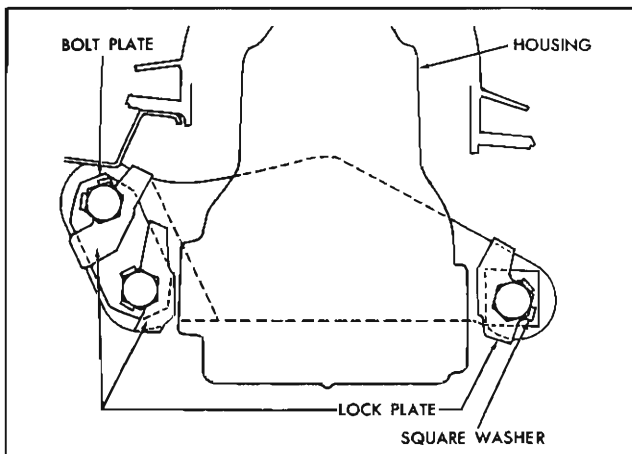

Fig. 7-8 Gearshift Lever and Housing Installation
3. Remove bolts securing transmission gearshift lever and housing to torque tube (Fig. 7-8).
4. Secure transmission gear shift lever and housing to torque tube (Fig. 7-8). Torque bolts to 10-15 lb. ft.